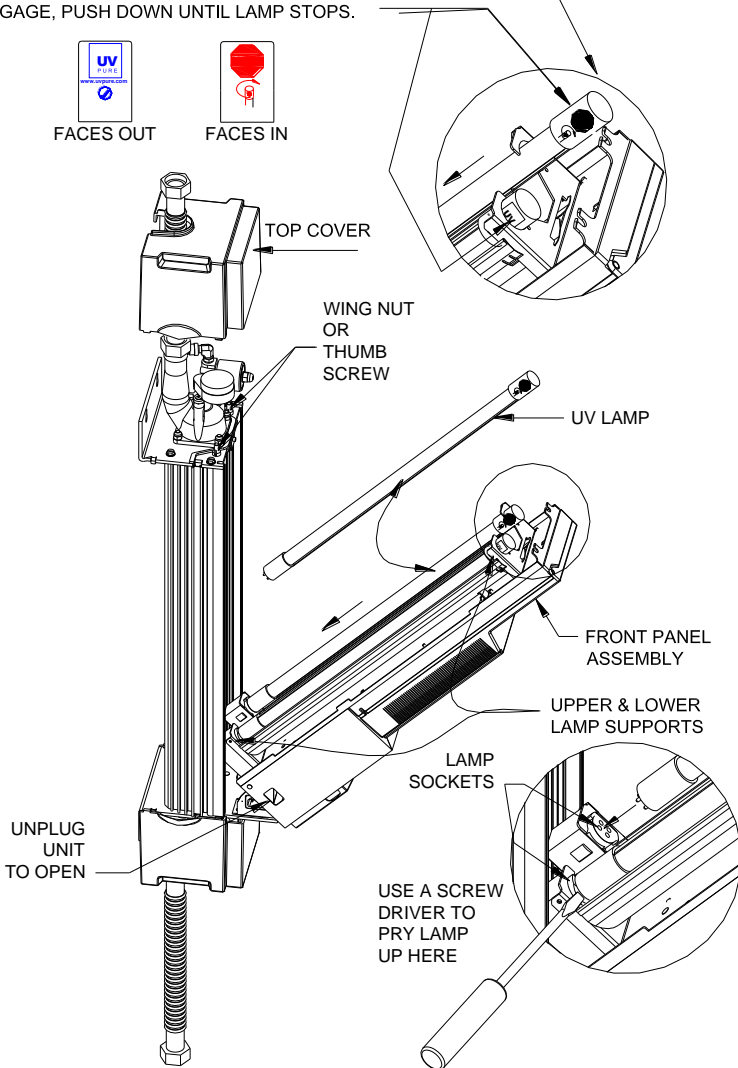

Figure 3
The lamps can be replaced in a few minutes. Draining the unit is not required. See Figure 3.
Step 3: Caution: The lamps heat up after continuous use and can burn your skin if touched. Allow lamps to cool for five minutes before removing them. Slowly lift the old lamps out of the unit. For assistance in this task, use a flat screwdriver and pry the lamps up between lamp base and socket (see Figure 3). Dispose of the old lamps in the same way as you would dispose of ordinary fluorescent tubes. Note that old lamps should be disposed of at a household waste management depot or transfer station; contact your local recycling and waste management authority for proper disposal procedures in your area.
Step 4 Install the new lamps into the unit, being careful not to touch the bulb. **Ensure that the lamps are aligned with the “Stop Sign” printed on the top ceramic facing inward (towards quartz sleeve). If you can see the stop sign, the lamps are backward (See Figure 3).**